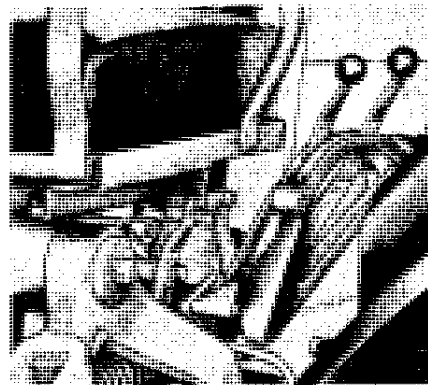

Figure 4
2. (Figure 4) Raise gatherer points with hydraulic lift of tractor so that the gatherer hinge point is 13 to 14 inches above the ground. Set hydraulic control lever stop on tractor so the lever cannot be moved beyond this height.